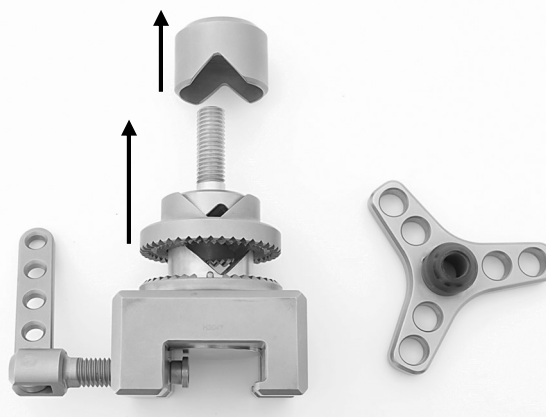

Fig. 16
First pull the upper part of the clamping jaw (2) from the thread of the base (4), then remove the lower part of the clamping jaw (3) (Fig. 16).